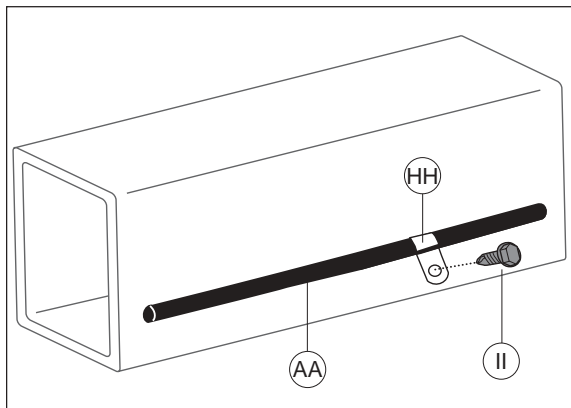

Figure 9
6. Route the air line along the frame to the air fitting on the air spring. Keep at least 6" of clearance between the air line and heat sources, such as the exhaust pipes, muffler, or catalytic converter. Avoid sharp bends and edges. Use the plastic tie straps (BB) to secure the air line to fixed, non-moving points along the chassis. Be sure that the tie straps are tight, but do not pinch the air line. Where there are no holes to secure straps to, use the hose clips (HH) and the self tapping screw (II) to secure air line to frame (Figure 9). Leave at least 2" of slack to allow for any movement that might pull on the air line.
7. On the exhaust side only, place the provided thermal sleeve (M) on the air line near the exhaust.